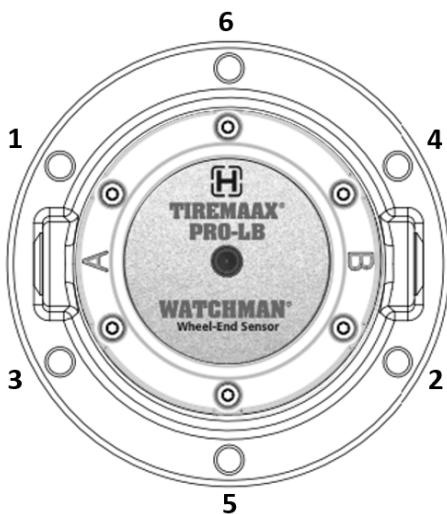

Figure 4: Hubcap torque pattern
NOTE: "A" and "B" ports shown in Figure 4 are important for proper tire location tracing on the TIREMAAX TPMS SENSOR system. It is recommended for consistency that port "A" is used for the outer tire in a dual tire scenario, or is the port used in a super single scenario.
8. Tighten hubcap bolts in the order shown in Figure 4 to 15 ± 3 ft-lbs (20 ± 4 Nm) of torque